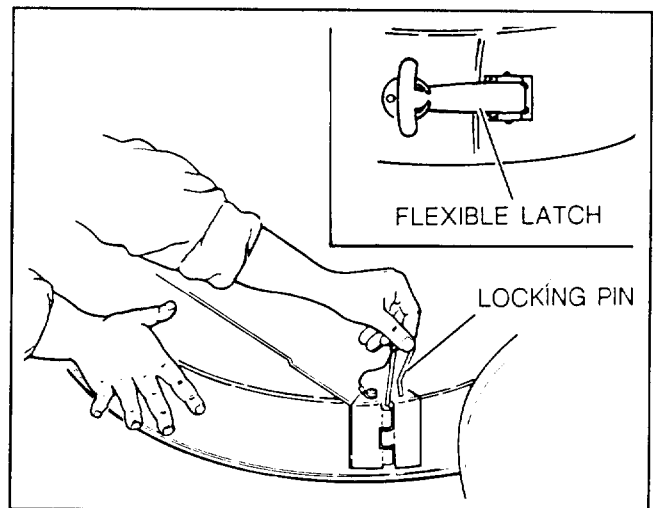

Figure 6
4. Slide chute assembly under deflector. Hook rear chute bracket around pivot post on deck. Slide front of chute into locking position with mating part of hinge lock. Insert locking pin (Fig. 6).
5. Hook flexible latch into notched bracket at rear of deck opening (Model 59178 only) (Fig. 6).